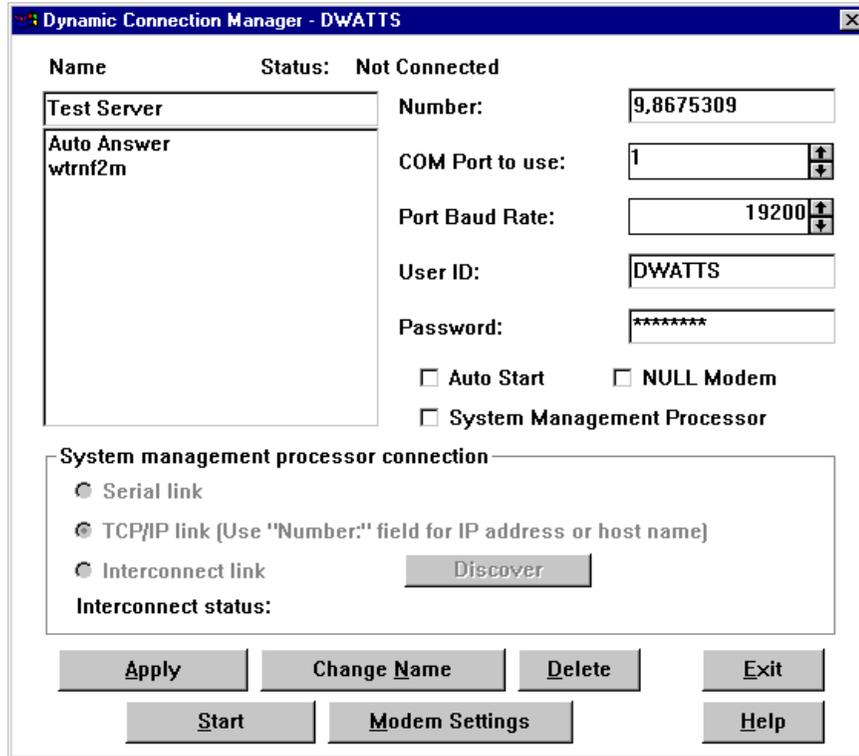

Figure 188. Configuring a Serial Connection
1. If you have not done so already, create a new entry in Dynamic Connection Manager per Figure 188.